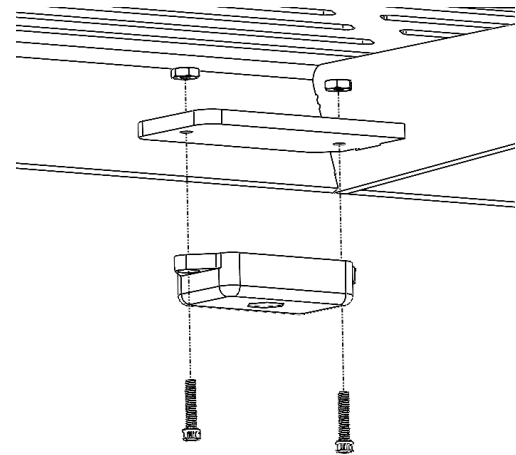

Figure 12: Rock Light Installation
14. Using the hardware provided by Baja Designs, secure the rock lights to the rock light mounting tabs as shown in Figure 12. If the hardware doesn't fit through the Rock Light Mounting Tab hole, drill it out with a $11/64$ " drill bit.